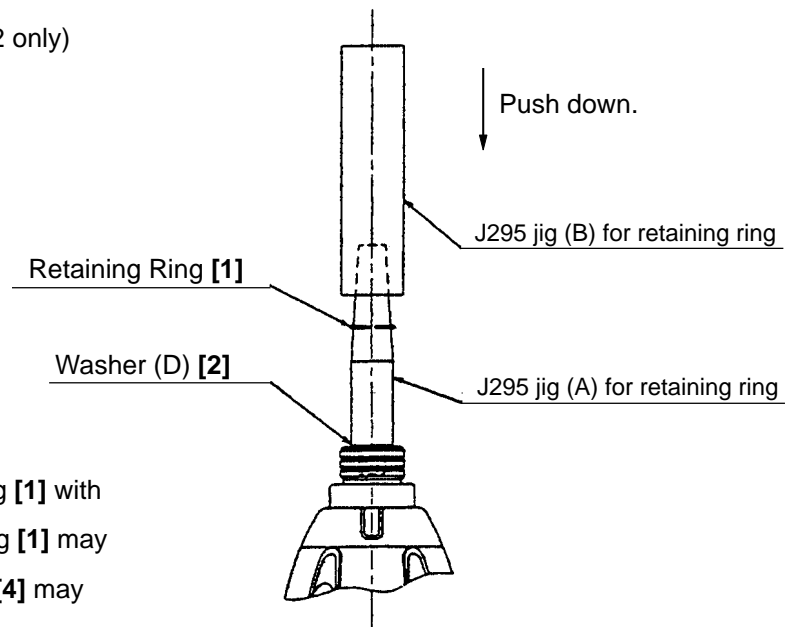

Fig. 12
Mount the Retaining Ring [1] into the groove of anvil using the J295 jigs (A) and (B) for retaining ring as illustrated in Fig. 12.